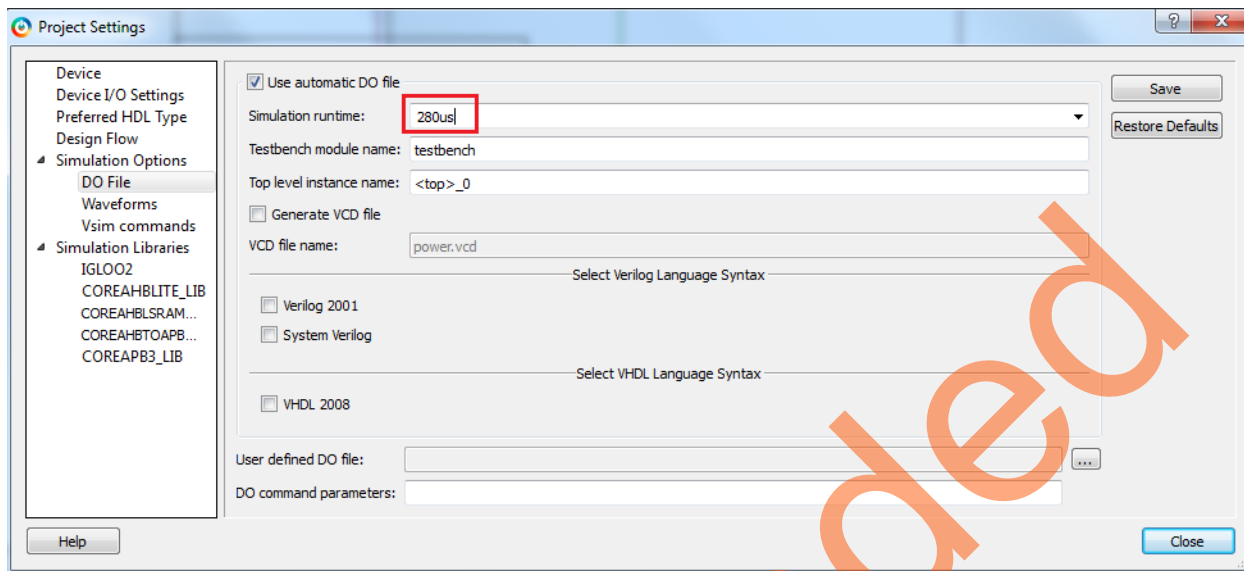

Figure 38 • Project Setting – Do File Simulation Runtime Setting
4. Select **Do File** under **Simulation Options** in the **Project Settings** window. Change the **Simulation runtime** to **280us**, as shown in Figure 38.